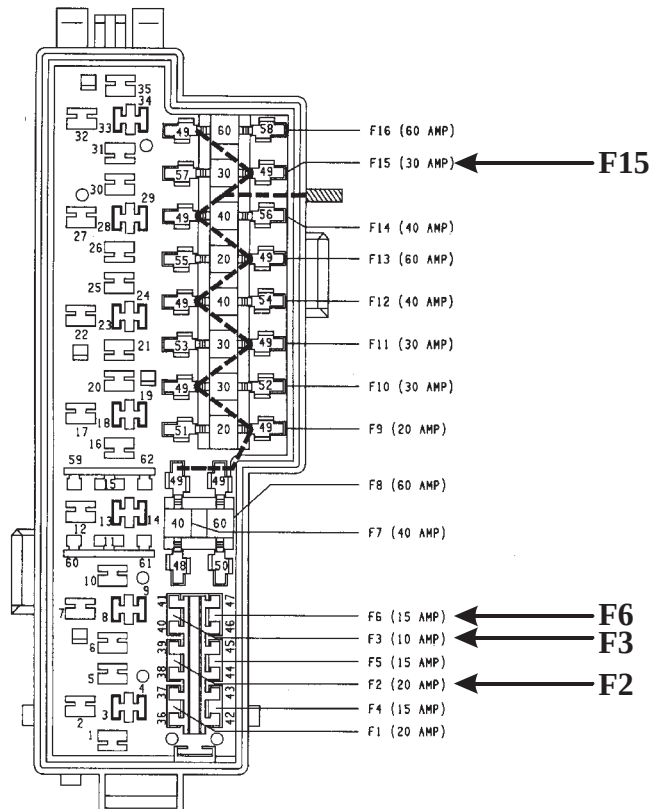

Figure 10
- (c)** With the engine off and the ignition switch in the ON position, check for battery voltage in the transmission control module connector, on pins C8, C9 and D8, as shown in Figure 9. If battery voltage is lost at **any** one of these terminals, check for blown fuses in the power distribution center, located on the passenger side fender shield by the battery. Check fuses F2, F3, F6, F15, and replace as necessary, as shown in Figure 10. If battery voltage is seen at all three locations, continue on to the next step. **Note: For 1996 and later models, see Page 120.**